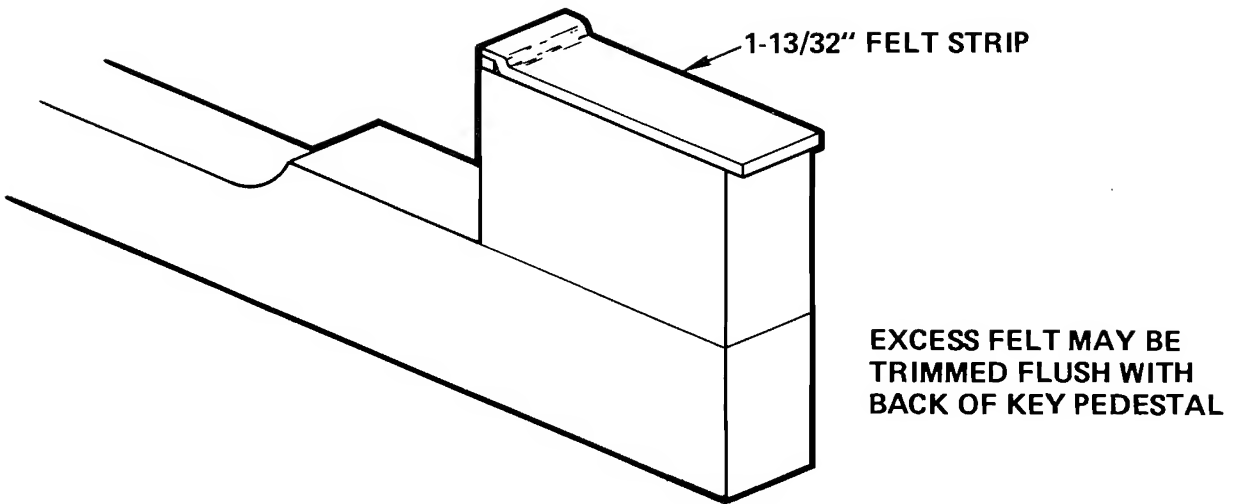

Figure 6-6. Key Pedestal — Felt Modification Complete
12. Remove the $1\text{-}13/32''$ (35.719mm) Felt Strips from the paper backing one at a time and place them on the top surface of the Key Pedestal with the $5/32''$ (3.969mm) Felt Piece mounted. Be particularly careful to ensure that the $1\text{-}13/32''$ (35.719mm) Felt Strip is flush with the front (closest to the Key Cap) surface of the Key Pedestal (Figure 6-6).